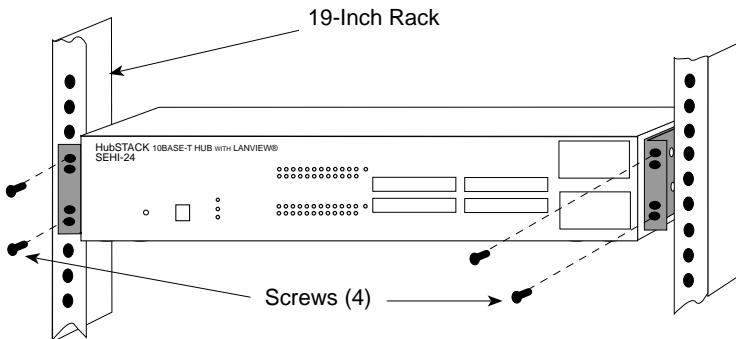

Figure 3-5. Installing the SEHI in the Rack
3. With the mounting brackets installed, position the SEHI between the vertical frame members of the 19-inch rack and fasten it securely with the mounting screws as shown in Figure 3-5.